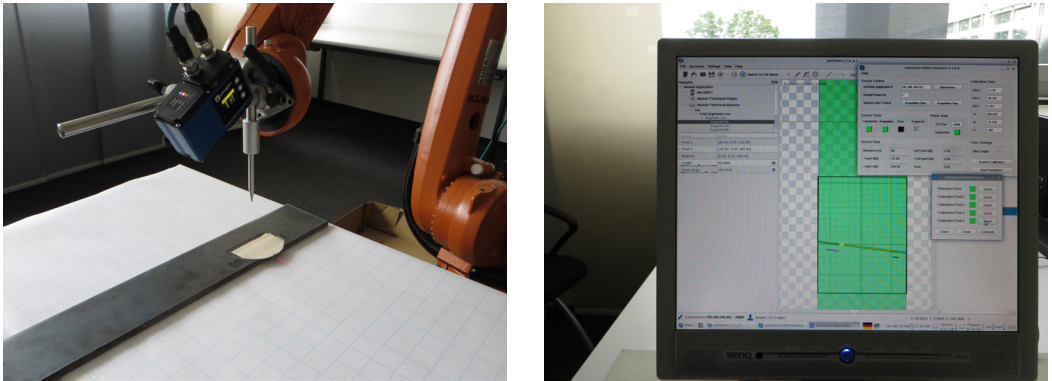

Fig. 23: Calibration point P4, correspondent screenshot (on the right)
9. Run the calibration program from robot controller. The robot at first will build a connection to the uniVisionKukaInterface and switch on the laser in the 2D/3D Profile Sensor. Then the robot will travel to the positions Pref, P1, P2, P3 and P4. Each time the robot reaches a saved point, click on teach button related to each point in the calibration window in uniVisionKukaInterface (see Fig. 19 ... Fig. 23).